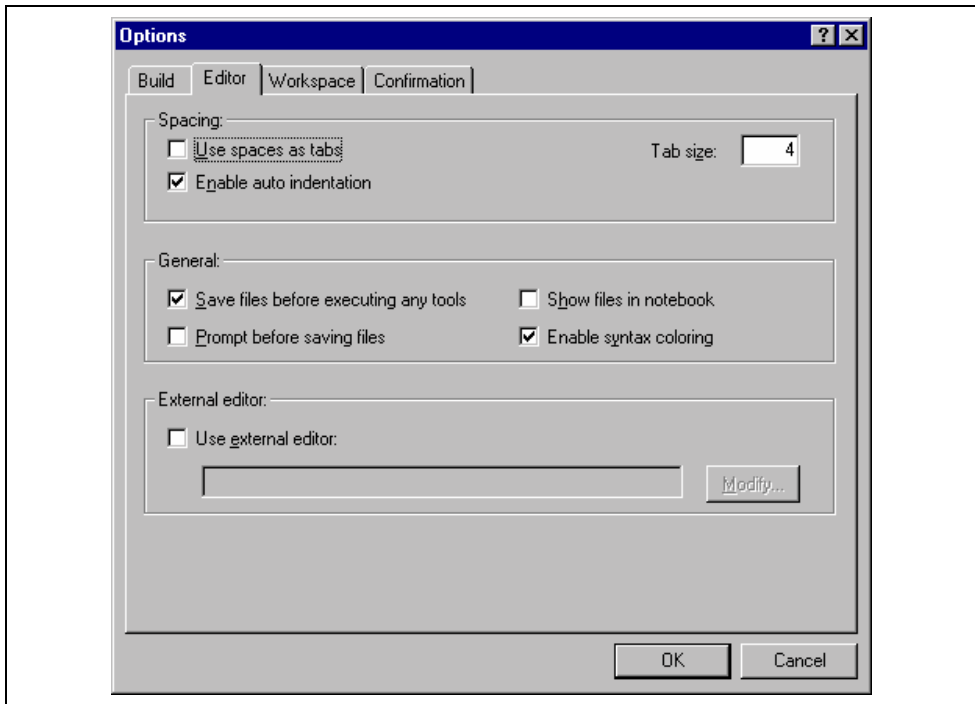

Figure 4.7: Options Dialog Editor Tab
1. Select [**Tools->Options...**]. The “Options” dialog will be displayed. Select the “Editor” tab (figure 4.7).
1. Select **[Tools->Options...]**. The “Options” dialog will be displayed. Select the “Editor” tab (figure 4.7).